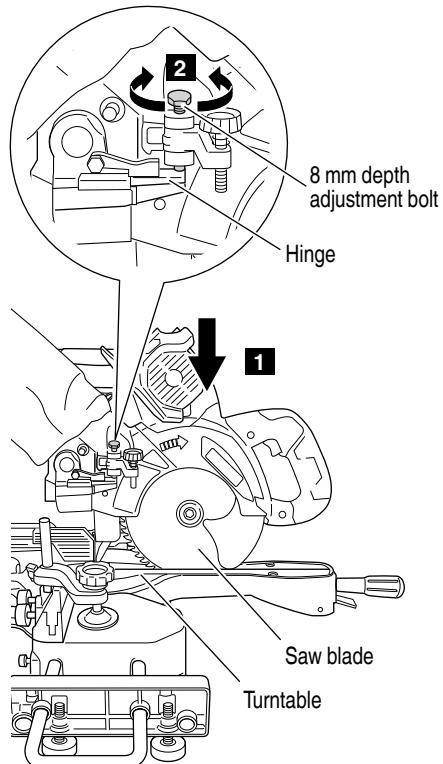

Fig. 18
To adjust the lower limit position of the saw blade, follow the procedure (1) indicated below. (Fig. 18)